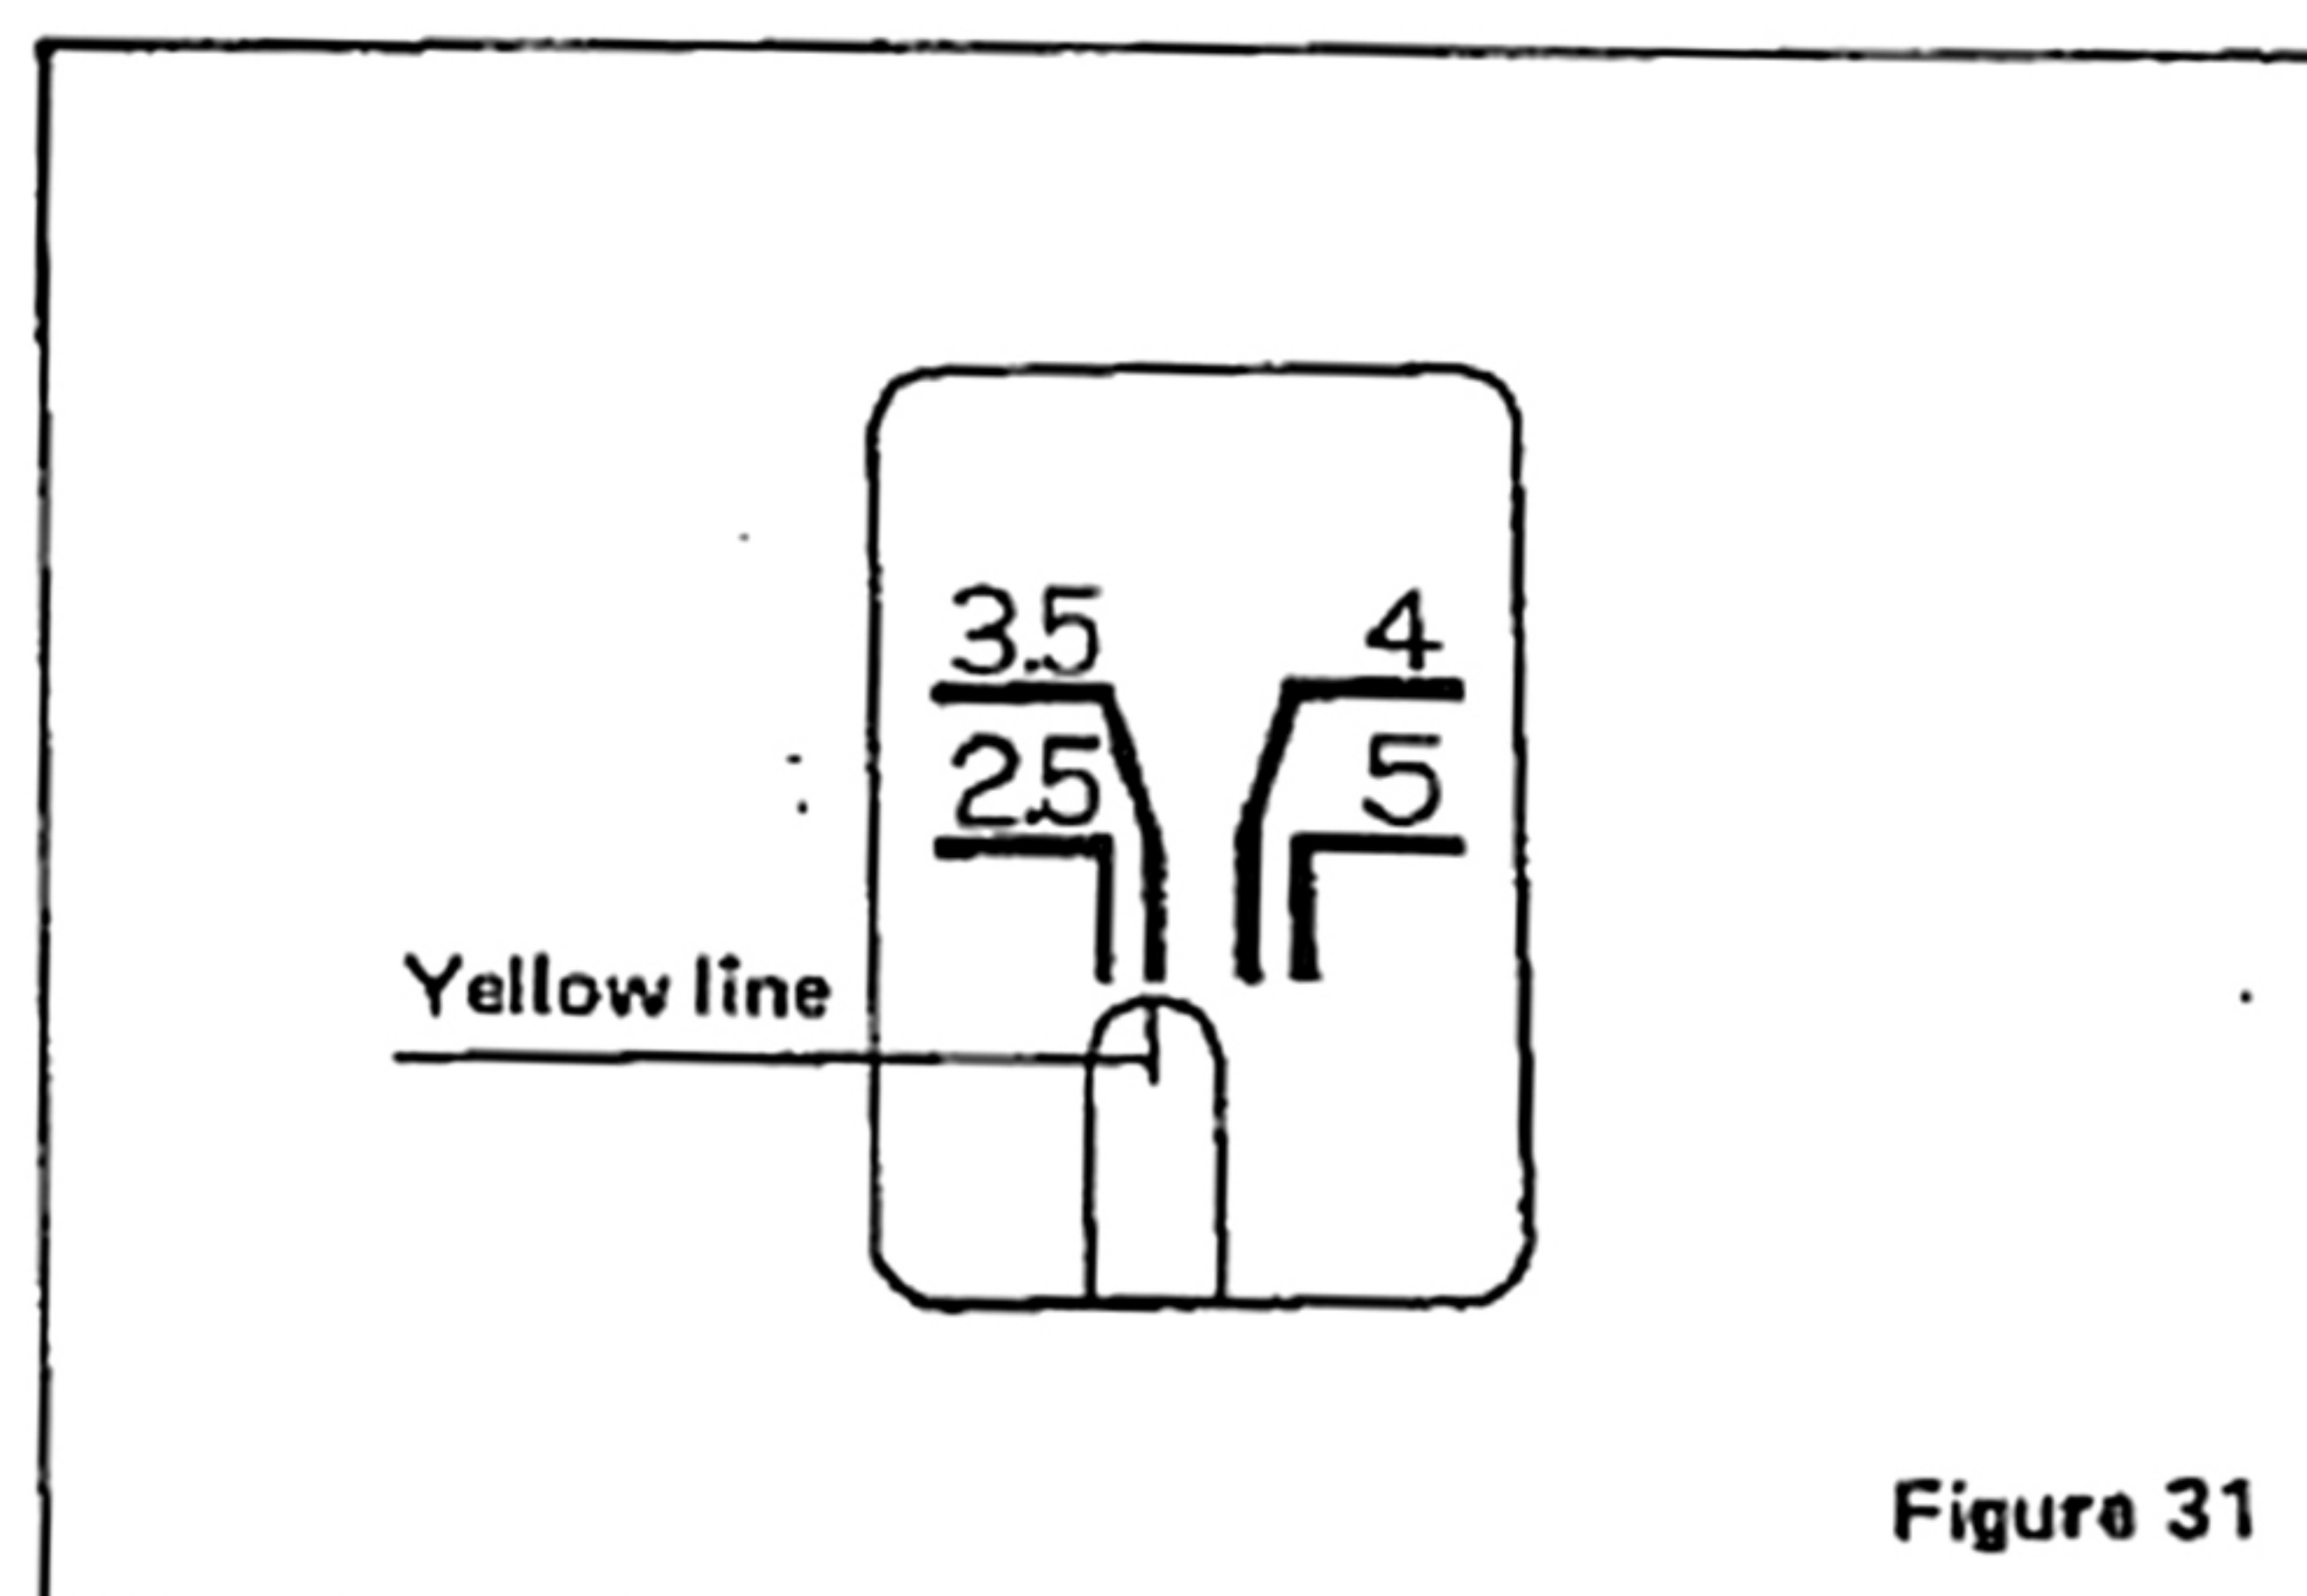

Figure 31
9. Turn the stitch width adjusting dial to align the yellow line indicator to your desired stitch width line (Figure 31).